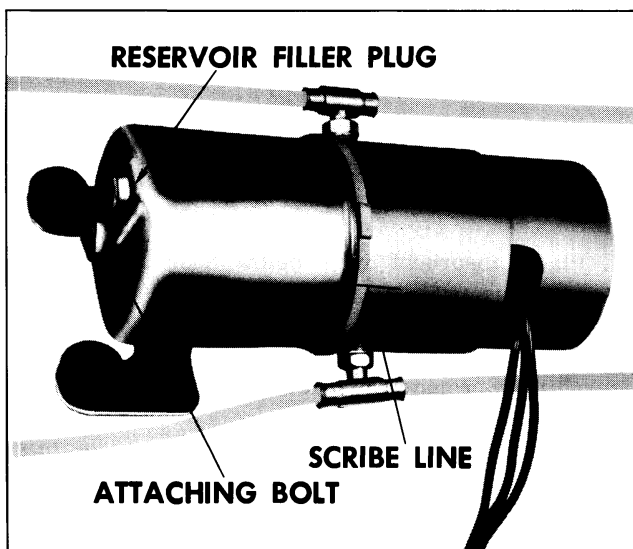

Fig. 21-47 Hydro-Lectric Assembly
2. Scribe a line across pump end plate and reservoir tube to insure a correct assembly of parts (Fig. 21-47).